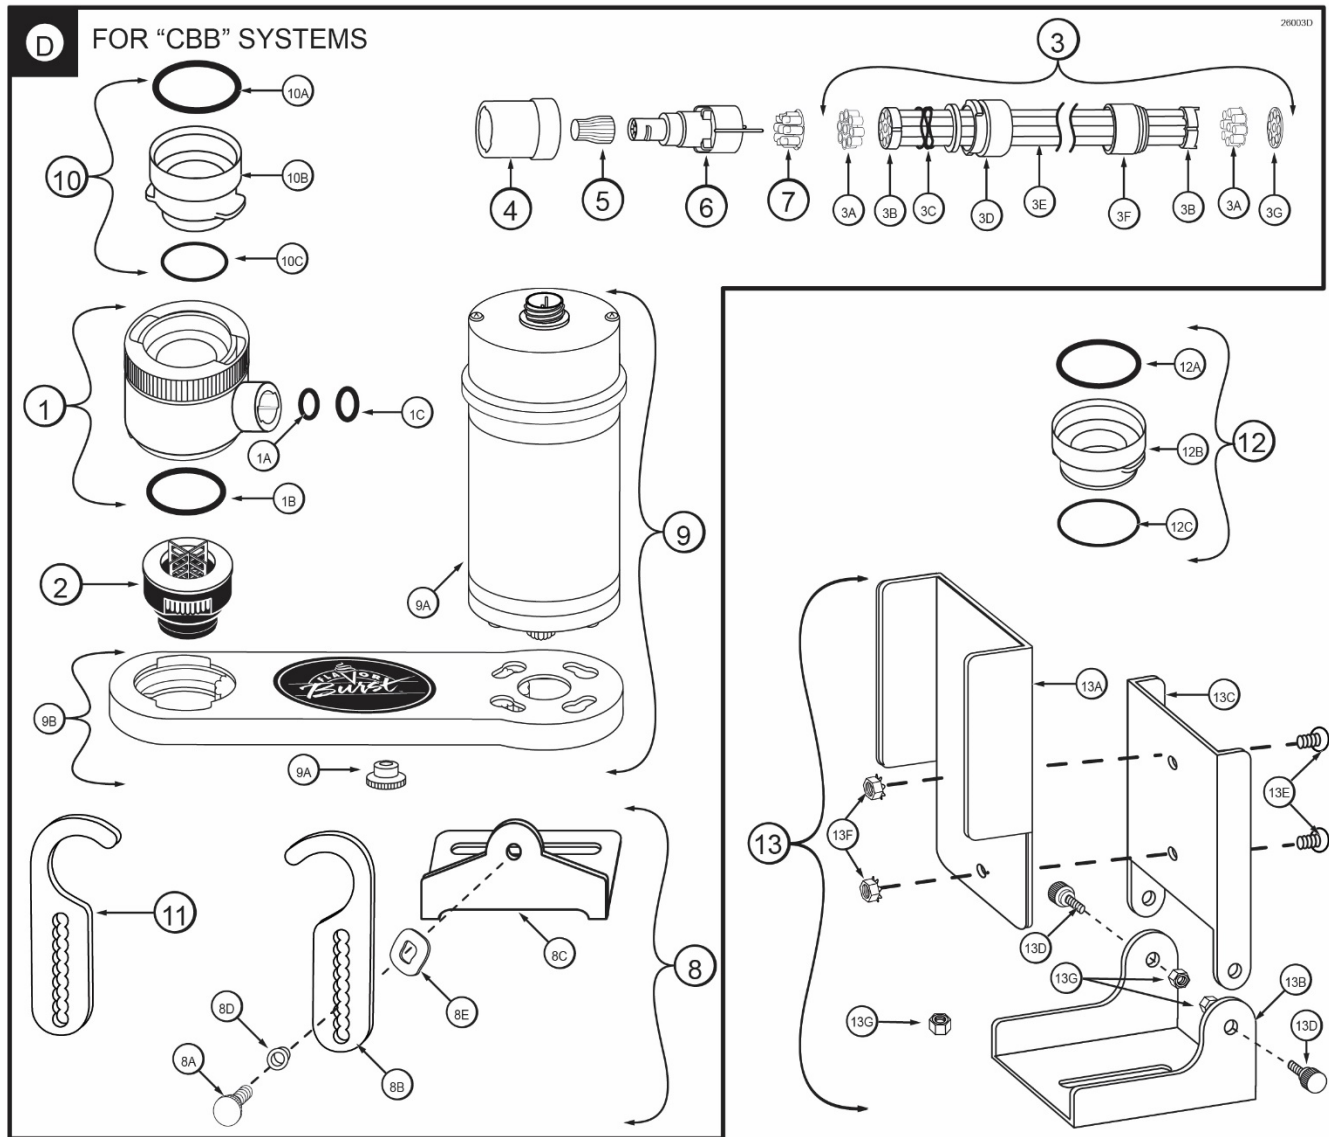

Figure 3D
**“CBB” Blending Assembly and Related Parts (See Figure 3D)**